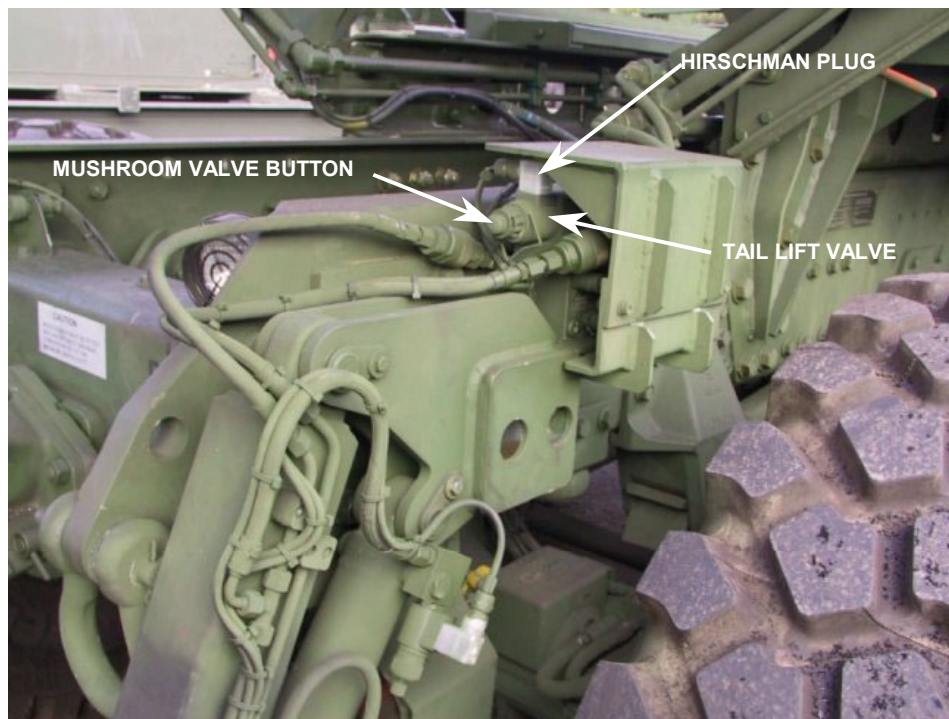

Figure 7. 4 Tail lift Manifold
- 7.20.1.1 The tail lift manifold (Figure 7. 4) is situated next to the right hand rear wheel. There are two mushroom button manual overrides. These two buttons change direction of flow. The valves are numbered **SV30a** and **SV30b**.
- 7.20.1.4 Each cylinder has a solenoid with an electrical Hirschman plug, as do all the solenoid valves. However rather than a mushroom button they have a small knurled screw with a hexagon socket in the head. (Refer to Figure 7. 5).